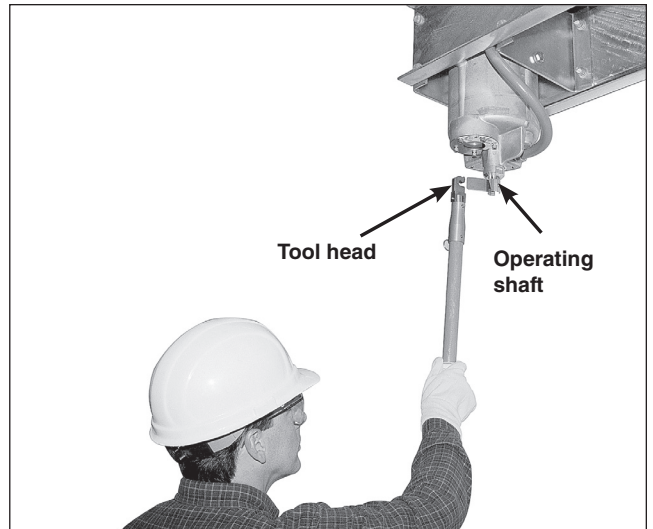

Figure 12. Guide the hooked end of the charging tool between the ears of the operating shaft.
STEP 7. Guide the hooked end of the charging tool between the ears of the pole-unit operating shaft and engage the operating shaft pin. See Figures 12, 13, and 14.